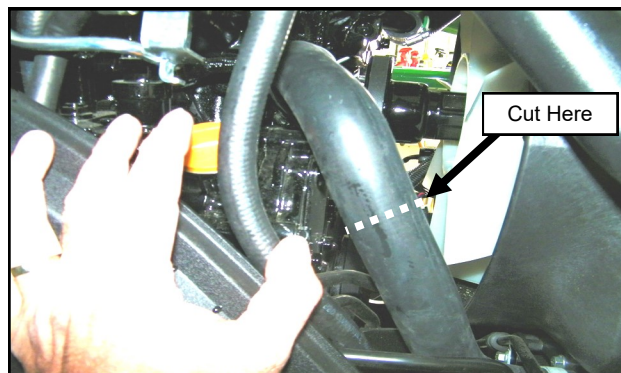

Fig. 17.2 (Cut Lower Radiator Hose)
- 17.2 Cut the lower radiator hose where shown. See Figure 17.2.